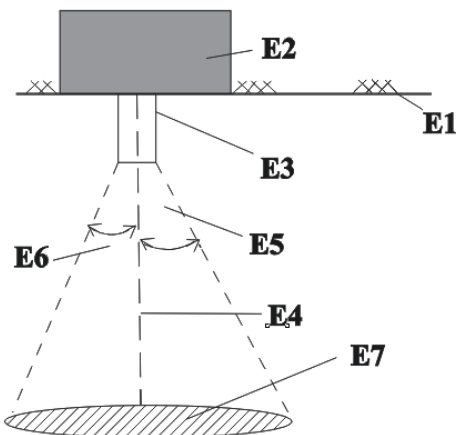

Figure 7: Collection cone when using the fibre rod with a plane surface
- B2 Optical fibre rod (see mounting instructions page2, fig.7+8)
- C1 Optical fibre rod (see mounting instructions page2, fig.7+8)
D5 Optical fibre rod (see mounting instructions page2, fig.7+8)
E1 Optical fibre rod (see mounting instructions page2, fig.7+8)
- The collection cone shown in figure 7 results when using the white-painted optical fibre rod with a plane light-sensitive surface (standard optical fibre rod).